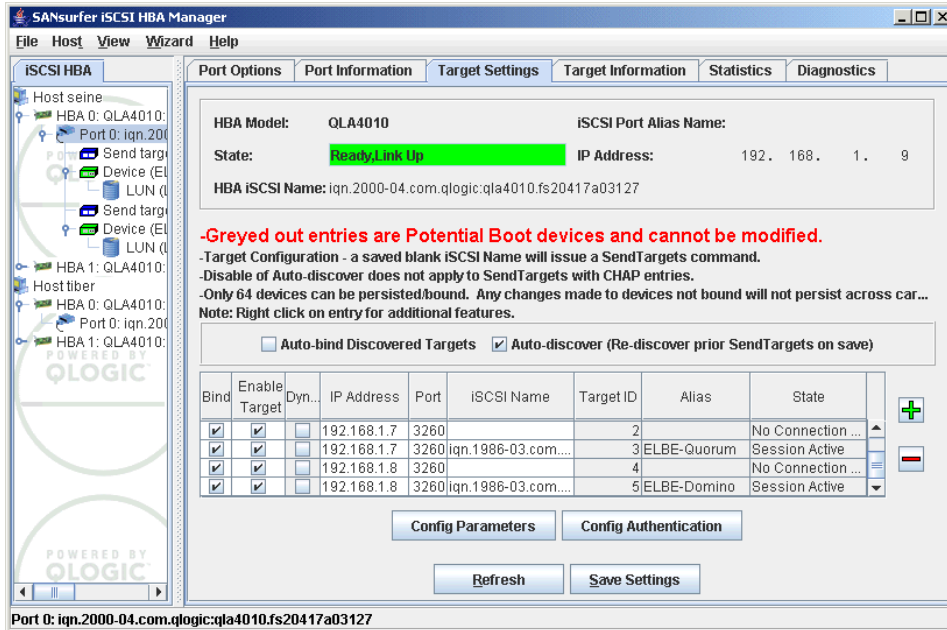

Figure 7-198 SANsurfer — first HBA of host SEINE with two iSCSI LUNs
- 38.The configuration looks like window shown in Figure 7-198 on page 351.